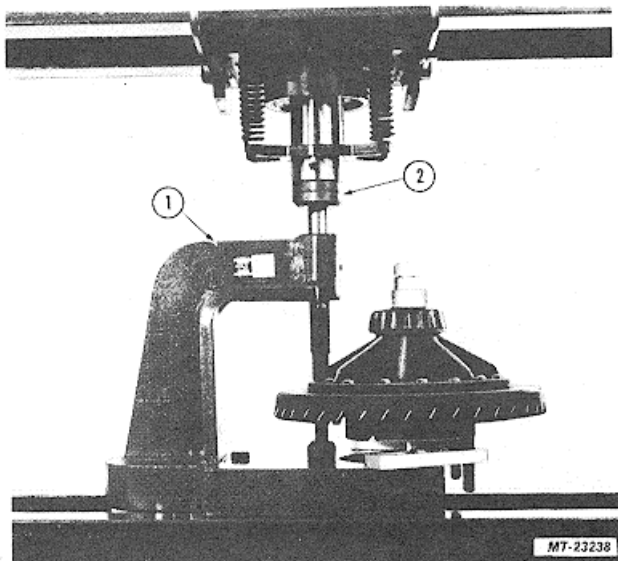

Fig. 32. Installing Drive Gear to Diff Case
1. If ring gear was removed from diff case, rivet gear to diff case flange. Use riveting fixture SE-2222 with hydraulic press (Fig. 32). Rivet pressures (tons) should be within the range given in "Specifications".